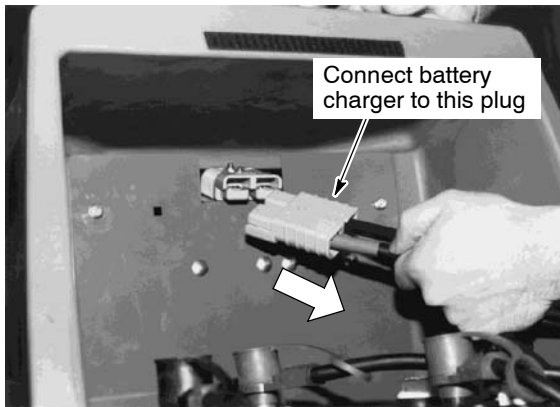

FIG. 17
5. Disconnect the battery plug from the machine (Figure 17). With charger's power supply cord unplugged, connect battery charger into battery plug.